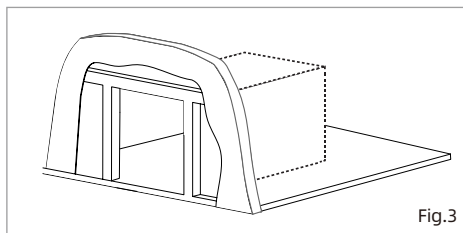

Fig.3
① RV Out-wall
② RV Flooring
5. Make sure the appliance is supported by a solid floor or platform with adequate weight-bearing capacity. (Fig.3)